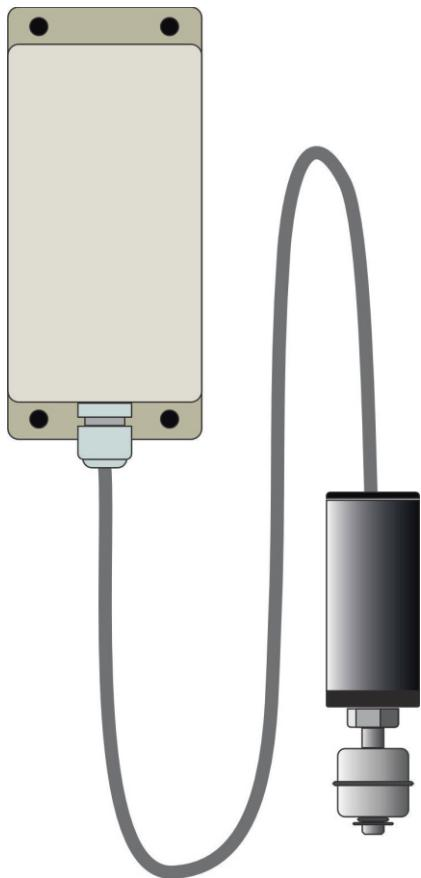
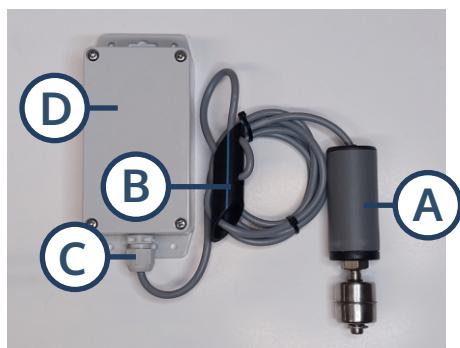

FIGURE 1
FIGURE 2
A. A transmitter mounted in the tank or pumphouse with a sensor monitoring the liquid level. (Figure 1)
B. A receiver unit installed at any suitable location in the building giving audible and visible alarm. (Figure 2 and 3)
The package includes a transmitter unit with a level sensor (Fig 1) and a receiver unit (Fig 2) with a DC adapter. Each receiver unit only reacts to alarms from its own transmitter unit.